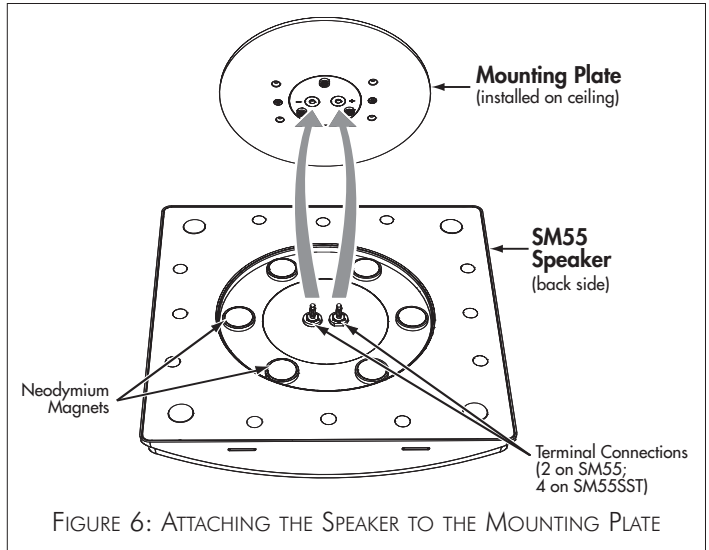

FIGURE 6: ATTACHING THE SPEAKER TO THE MOUNTING PLATE
5. To install the speaker, place the speaker against the Mounting Plate so that the male terminal connectors on the speaker fit into the female connectors on the Mounting Plate. The neodymium magnets on the speaker will secure the speaker to the Mounting Plate. (See Figure 6.)